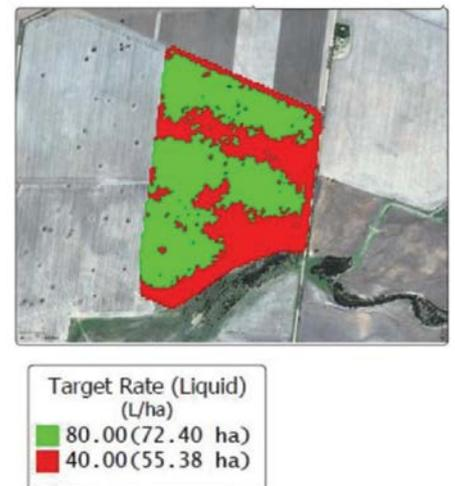

Figure 2. Spray application map showing high (80 L/ha, green) and low (40 L/ha, red) application rate zones.
From the drone image, Brad produced the variable rate (VR) prescription spray map (Figure 2), which was loaded into the spray unit controller and used to apply the growth regulant. By varying